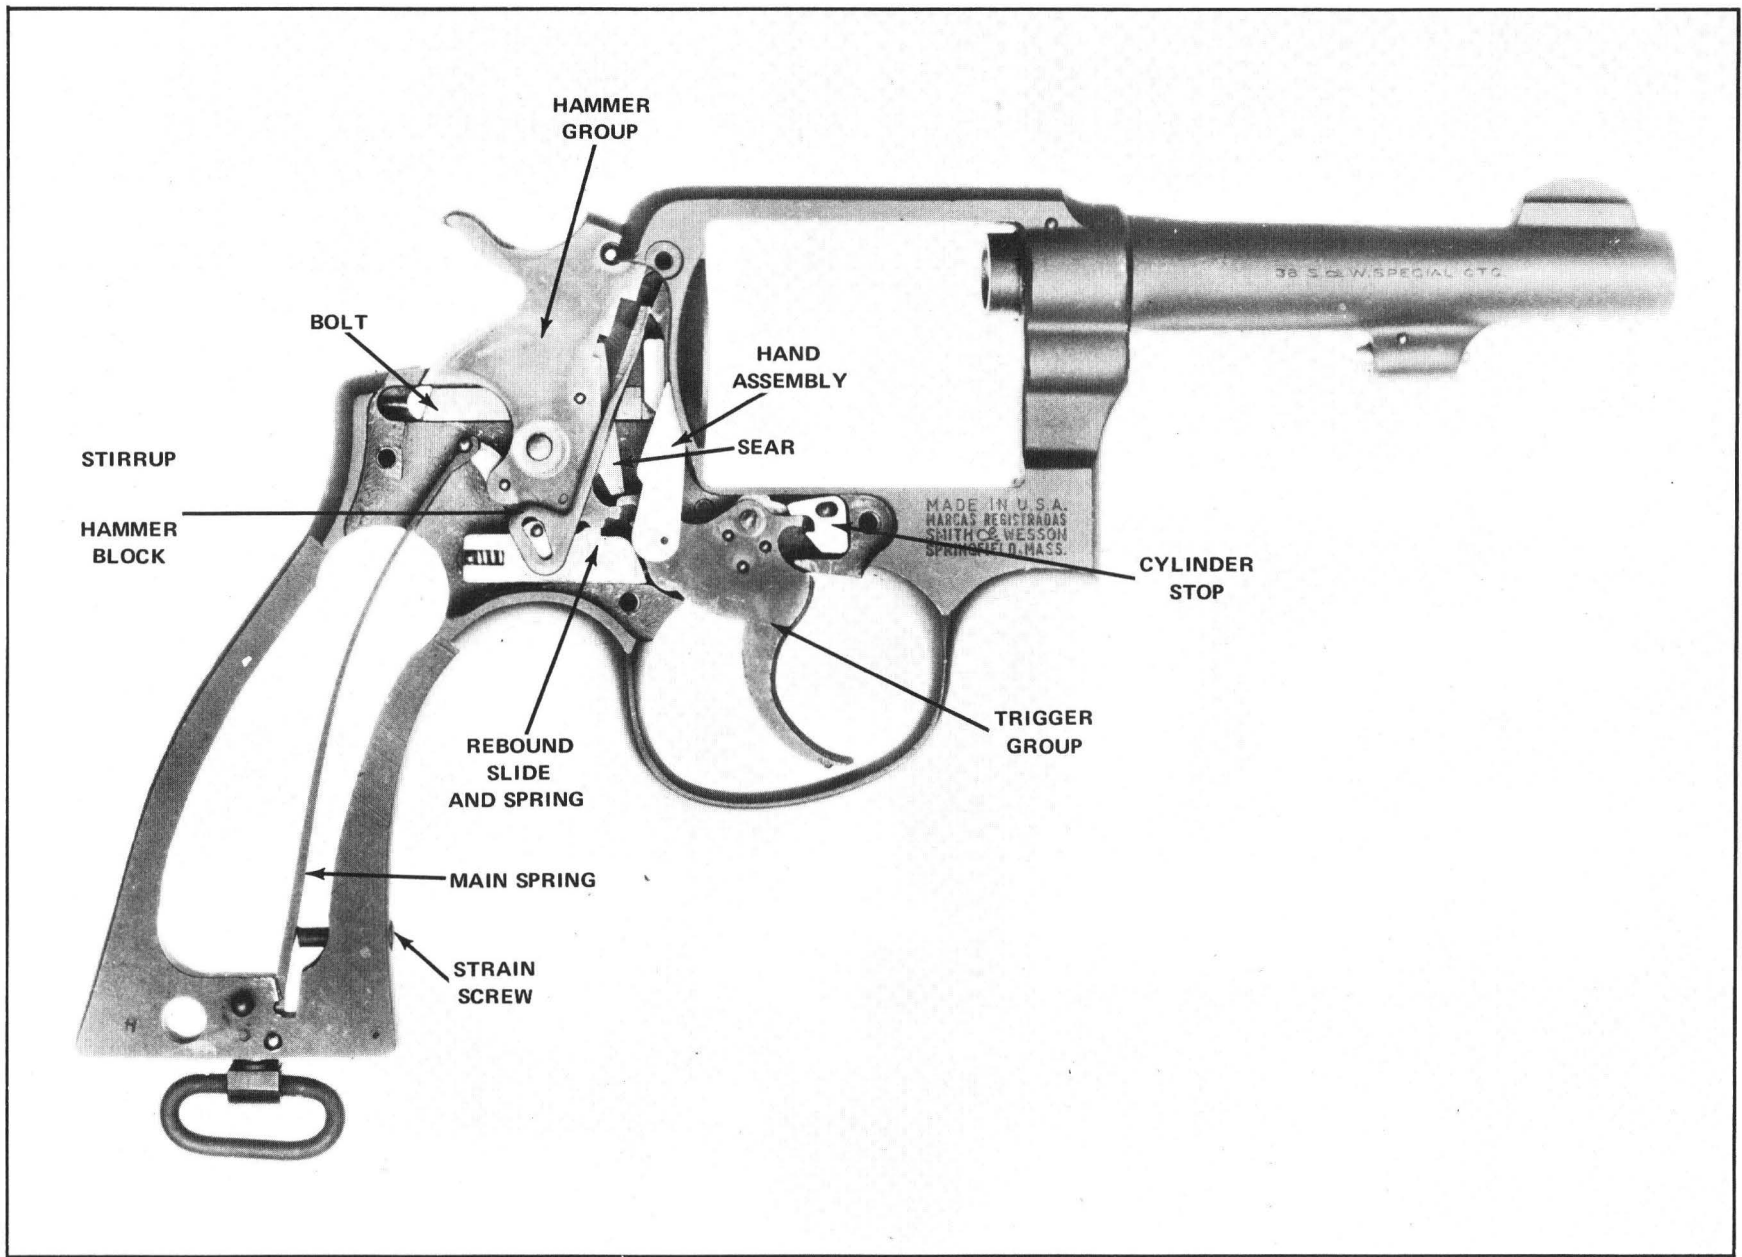

Figure 4-8. Lock Mechanism Installed in Frame
- k. Install the mainspring (36) by engaging its hooked end with the stirrup (11) and by pressing the lower end into its recess in the base of the butt frame.
- l. Install the strain screw (39) into its recess and tighten.
- m. Install the hammer block (22). Refer to figure 4-8 for proper installation of the lock mechanism components.